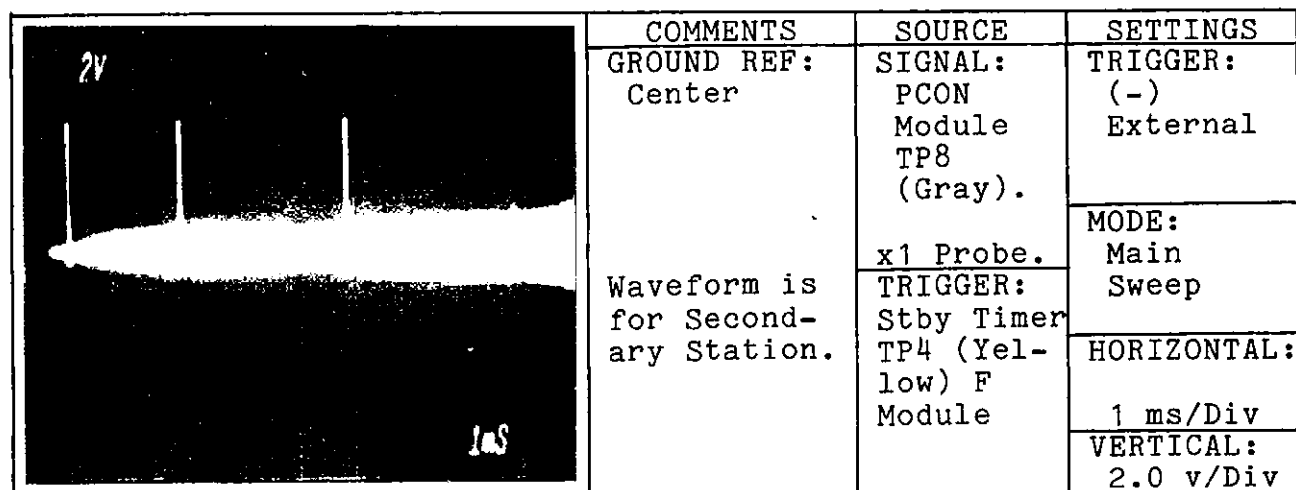

Figure 5.42. Phase Code Reset Waveform (Negative Slope Triggered)
(B) PHASE CODE RESET FIGURES 5.42 AND 5.43.